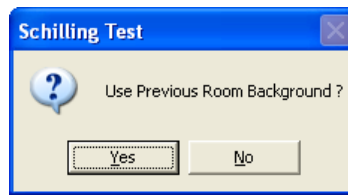
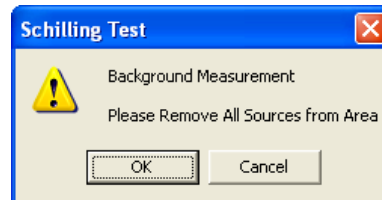

Figure 10-14
Figure 10-15
4. First, the screen prompts you to measure background counts as shown in Figure 10-15.
Note: *If the background has recently been counted, then the screen shown in Figure 10-14 will appear. To skip counting the background again and proceed to step 5, click the **Yes** button or press the Y key. To re-measure the background, click the **No** button or press the N key. The screen shown in Figure 10-15 will appear.*